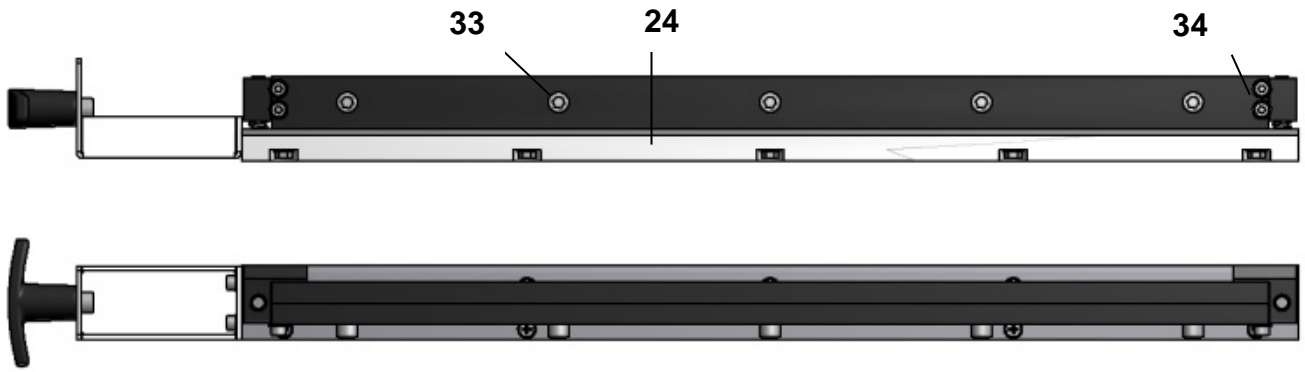

Fig. 2: Perforating tool 2:1- 9 TPI (571 40 465a) – standard equipment. Microperforating tool (571 40 464) as optional accessory.
- 24 – Tool base (fig. 2)
- 33 – Perforating tool screw M6x20 (fig. 2)
- 34 – Perforating tool screw M4x25 (fig. 2)